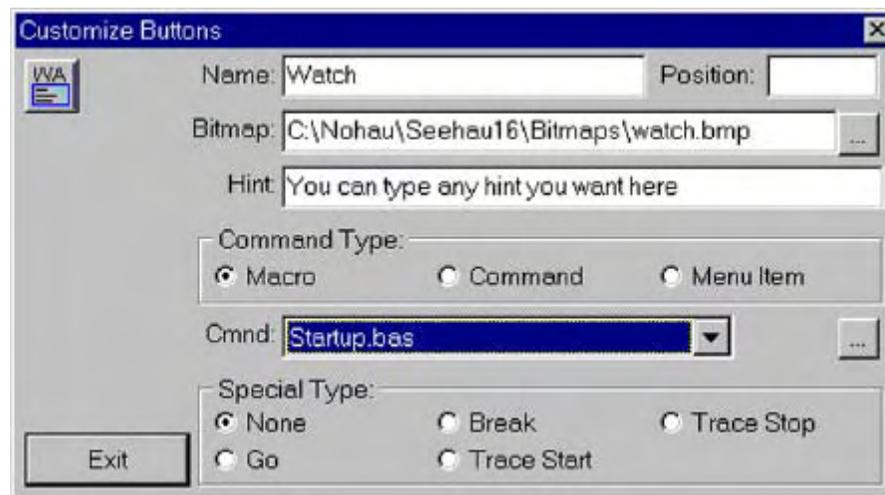

Figure 73. Customize Buttons Dialog Box
1. Open the **Customize Buttons** dialog box (Figure 73) from Seehau's main window. Right-click the toolbar, then click **Buttons**. Or from the **Config** menu, select **Buttons**.